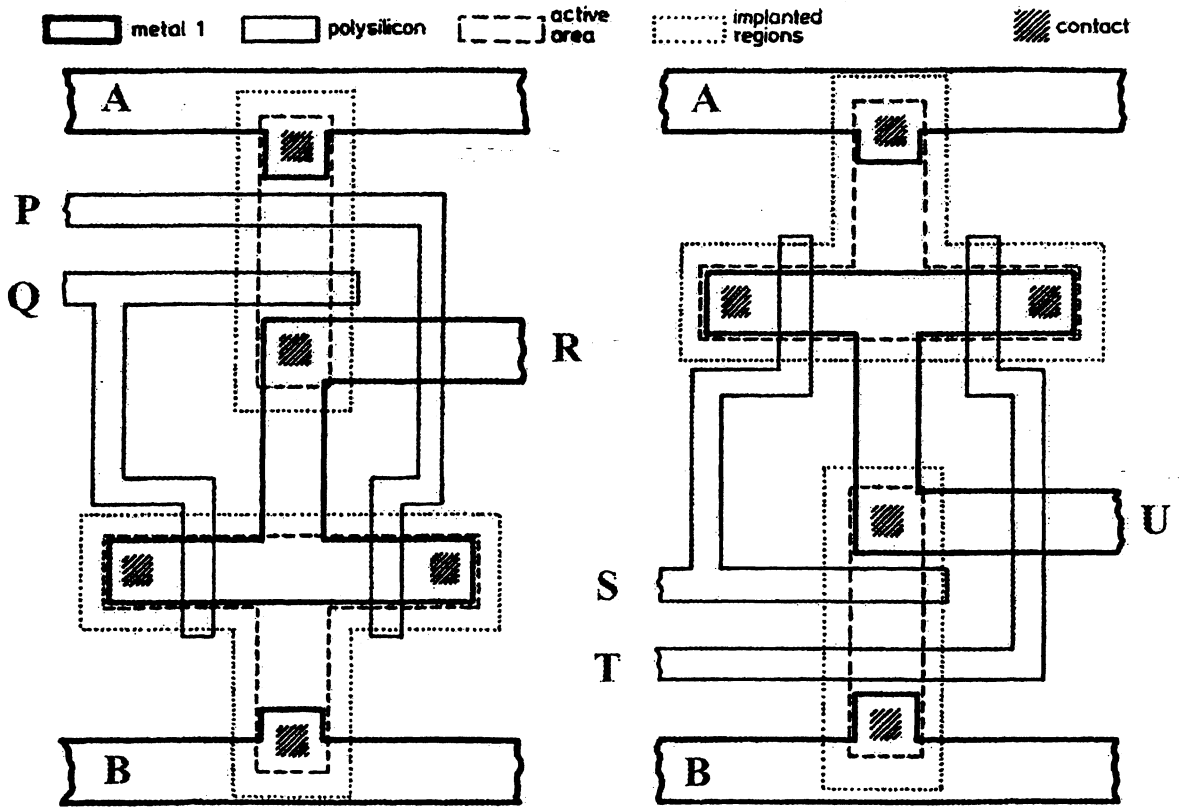

Fig. 1
*Extra copy of Fig. 1 (Question 1).*
(b) Figure 1 shows layouts of two different CMOS gates using n-well technology and a p-type substrate, with power supply  $V_{DD}$  labelled *A* and power supply  $V_{SS}$  labelled *B*.
(ii) On the supplementary copy of Fig. 1, label which regions are implanted with p-type impurities and which regions are implanted n-type. Draw on that copy a possible location for the n-type well, and shade in the active regions of all of the n-channel transistors. [15%]
(iii) Taking measurements from Fig. 1, calculate the ratio  $r_{NP}$  of the widths of the n-channel to the p-channel transistors in each of the logic gates in Fig. 1. [10%]
(c) Taking the electron mobility in silicon to be twice as large as the hole mobility, comment on the switching performance of each of the logic gates in Figure 1. For incorporation into a general purpose logic circuit, calculate the optimum design value ratio for  $r_{NP}$  to maximize the switching speed. [20%]
(d) Outline why the performance of CMOS circuits improves when the minimum lithographic linewidth is reduced. With reference to Fig. 1, explain which dimensions are most important in determining circuit performance. Comment briefly on possible limitations in CMOS circuit performance as the available fabrication technology is projected to improve over the next decade. [20%]
Additional copy of Fig. 1